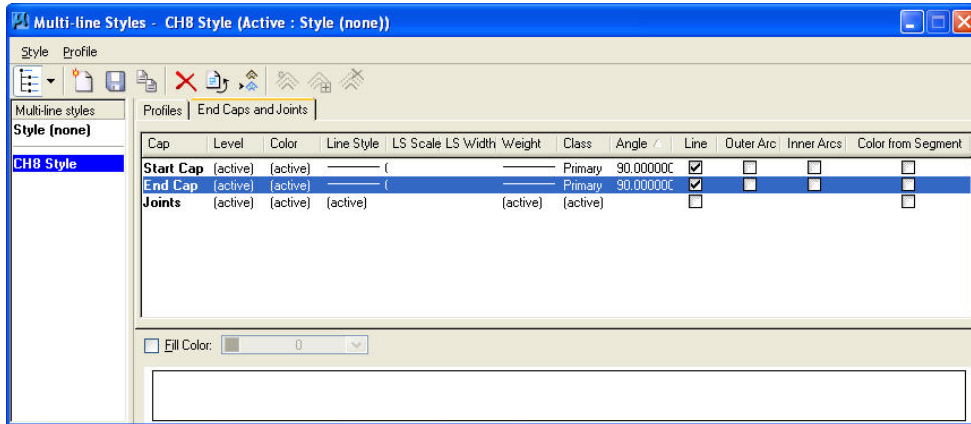

Figure P8-4 Start Cap settings for the wall's Multi-line profile
STEP 6: Set the **Start Cap**, **End Cap**, and **Joints** as shown in Figure P8-4.